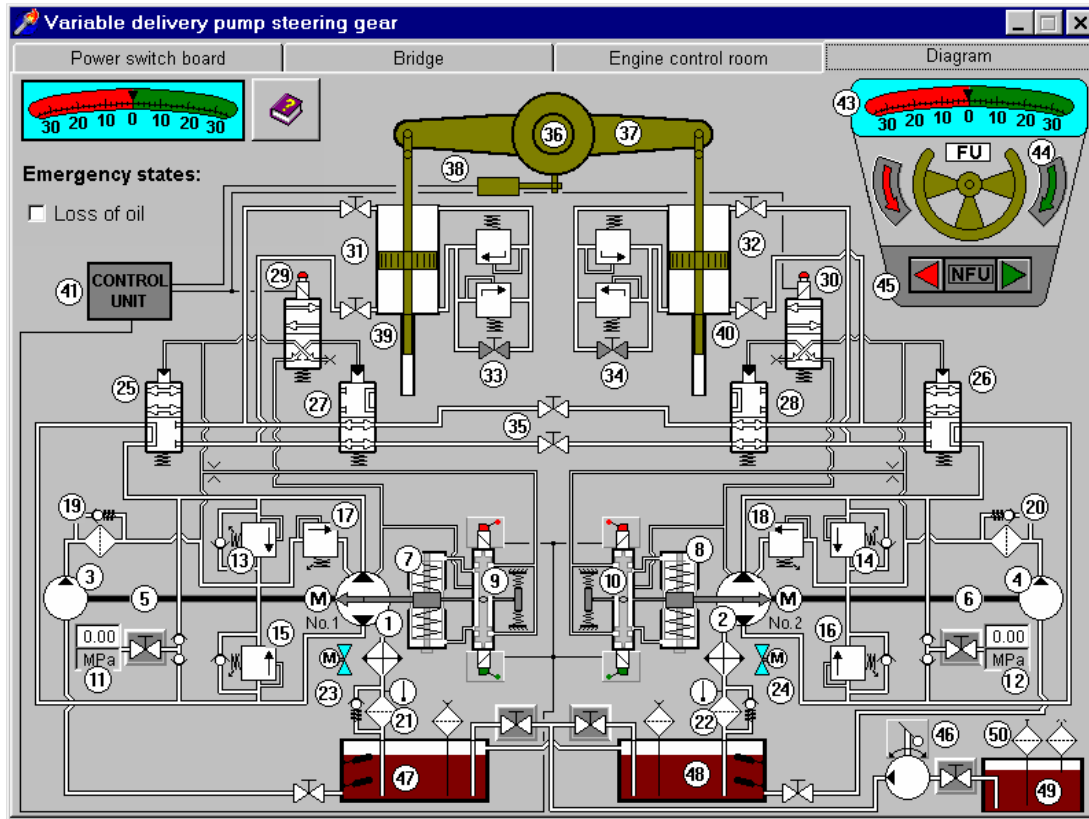

Fig. 1 Steering gear – installation diagram
## 2. Steering gear and installation description - fig. 1.
This steering gear consists of two hydraulic cylinders (39, 40) with two pistons inside which are defined as rudder actuator unit. The pistons affect the rudder tiller (37) by means of the strand assembly and the rudder tiller affects the rudder stock (36) directly. This action causes the movement of the rudder blade (the rudder blade is not visible on the Figure 1). The nominal pressure is equal to approx. 25 MPa and it is generated by two independent variable delivery pump drive units (1, 2). The high pressure of installation may be measured by pressure gauges (11, 12), by opening the manometer valves. During steering gear operation, manometer valves should be closed because of the risk of damage by high pressure in installation. The maximal pressure, which opens safety valves 13,14,15,16,33 and 34 equals to 31,5 MPa.